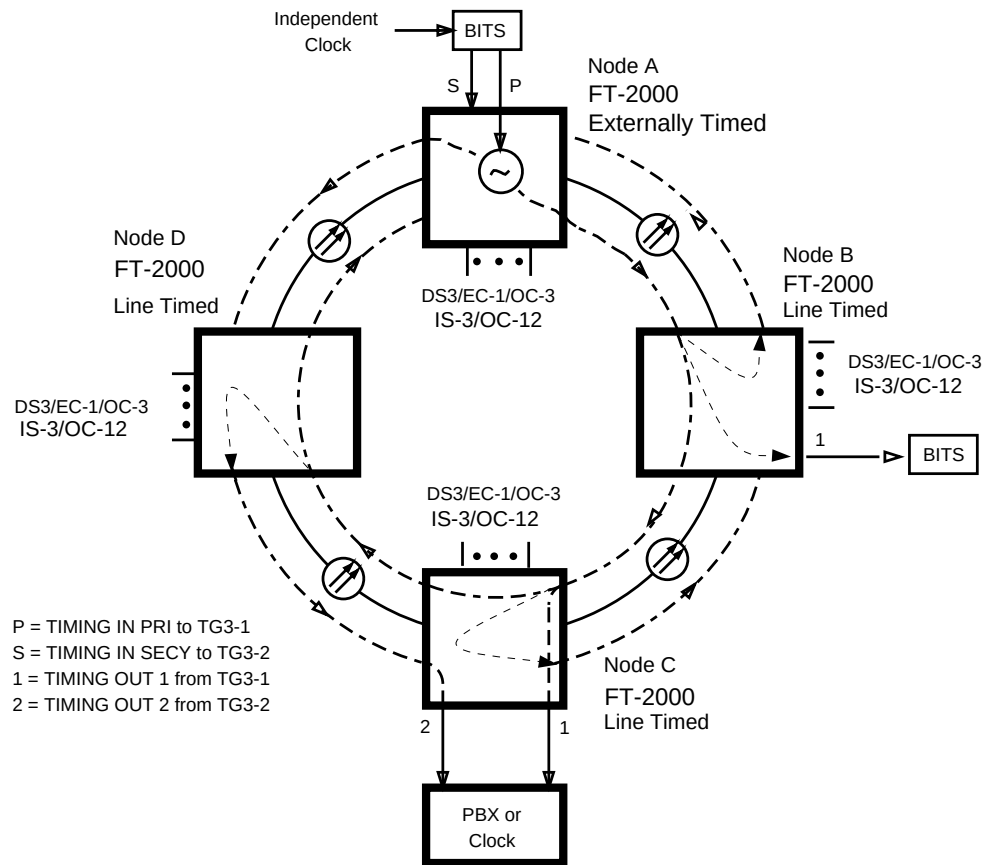

Figure 5-21. Example of a Ring Application with One Node Provisioned Externally Timed and All Other Nodes Provisioned Line Timed (With Two Timing Drops)
- **One node provisioned externally timed; all other nodes provisioned line timed.** In this configuration (Figure 5-21), any one or all nodes that are provisioned line timed can derive and distribute timing.